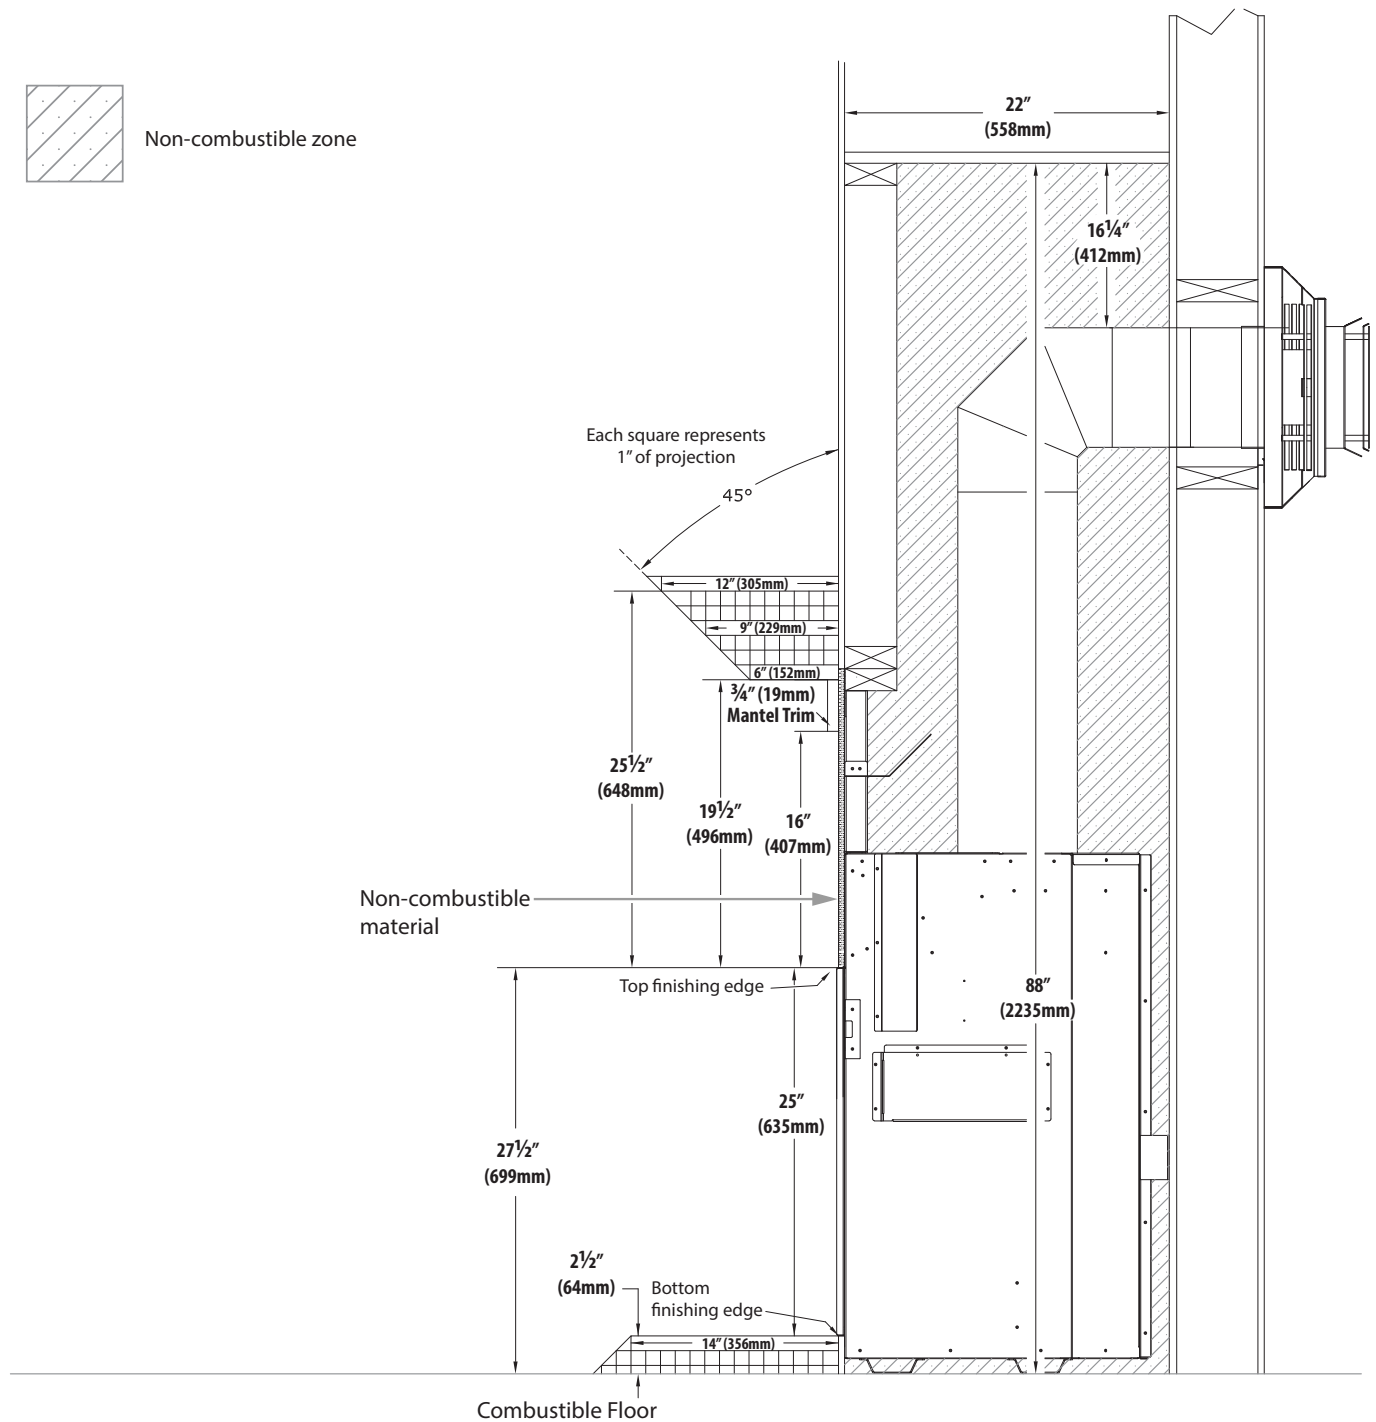

Figure 4.1, Standard Installation Combustible Mantel and Hearth
- **Combustible Mantel Projections:** As referenced in Figure 4.1, the 3/4" trim can start at 16" (407mm) above the top finishing edge with a 6" (152mm) mantel starting at 19-1/2" (496mm) above the top finishing edge. Mantel projections can increase 1" (25mm) of depth for every 1" (25mm) of height starting at the 6" (152mm) mantel.
- **Combustible Hearth:** As referenced in Figure 4.1, the bottom of the bottom finishing edge can be flush with the top of the hearth.